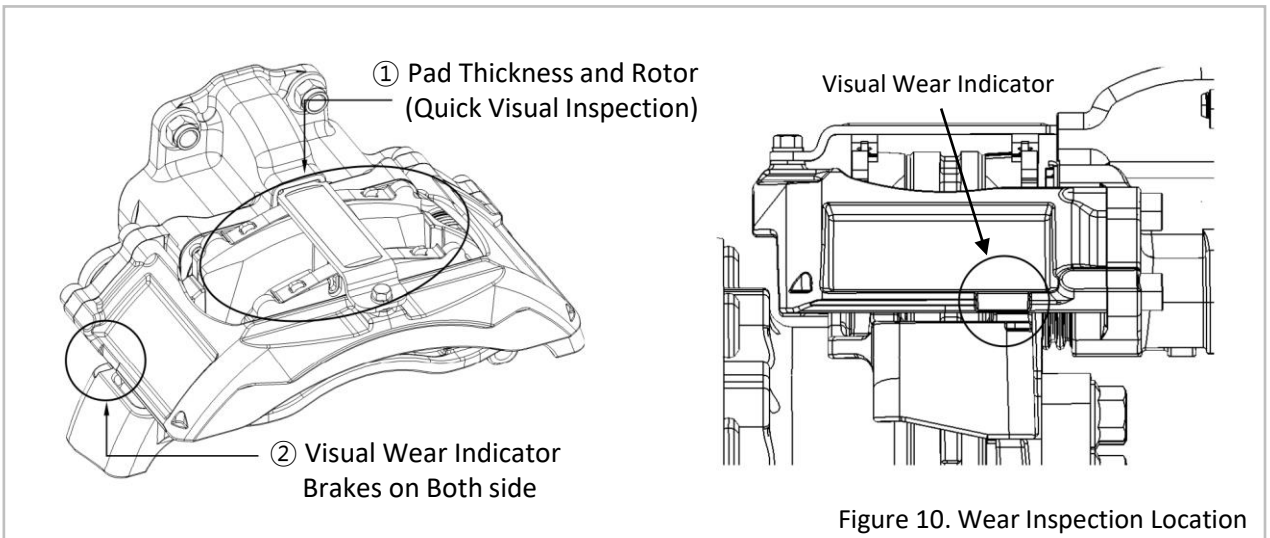
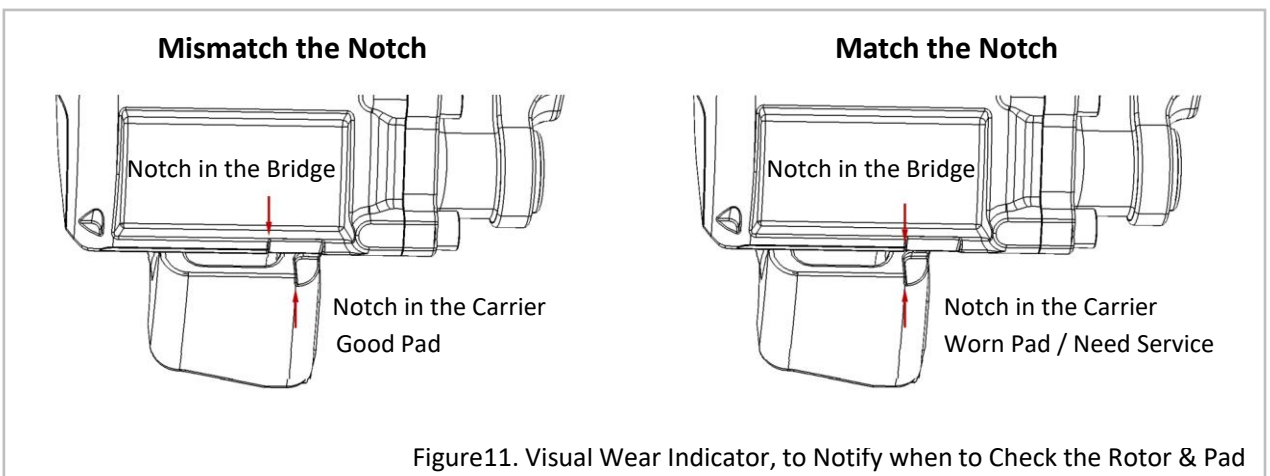

Figure 10. Wear Inspection Location
Figure 11. Visual Wear Indicator, to Notify when to Check the Rotor & Pad
- You can visually check the wear of the brake pads and rotor without detaching the wheel (See Figure 10) or ADB measurement tool. (See Page 39. Section 6)
- ① Position yourself over the top of caliper and rotor to inspect visual indicators.
- ② You can check the wear of the pad through Visual Wear Indicator. (See Figure 11)